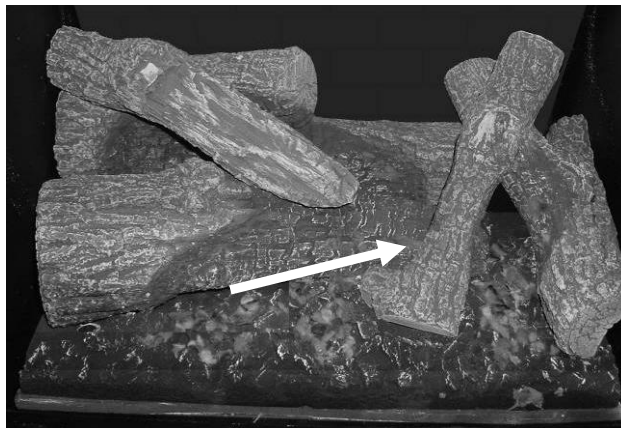

Figure 23 – Log 5 Position
6. Gently place Log 5 in the indentation on the burner and rest it on log 3 as shown in Figure 23.